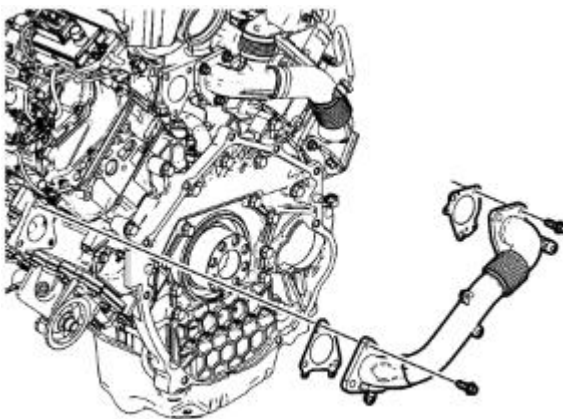
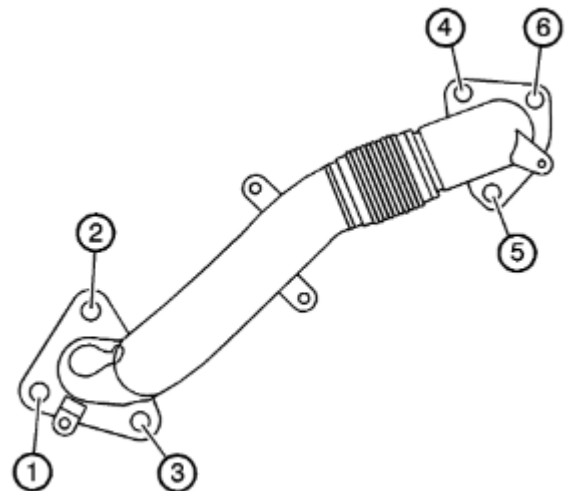

Fig. 123: Driver's side exhaust up-pipe installation
Fig. 124: Driver's side exhaust up-pipe tightening sequence
- a. Install the driver's side exhaust up-pipe. Install new gaskets and ensure that the tabs on the gaskets match the orientations shown in figure 123. Install the bolts in the sequence shown in figure 124 and torque them to 39 ft-lb. Install the driver's side exhaust pipe heat shield and torque the bolts to 89 in-lb.